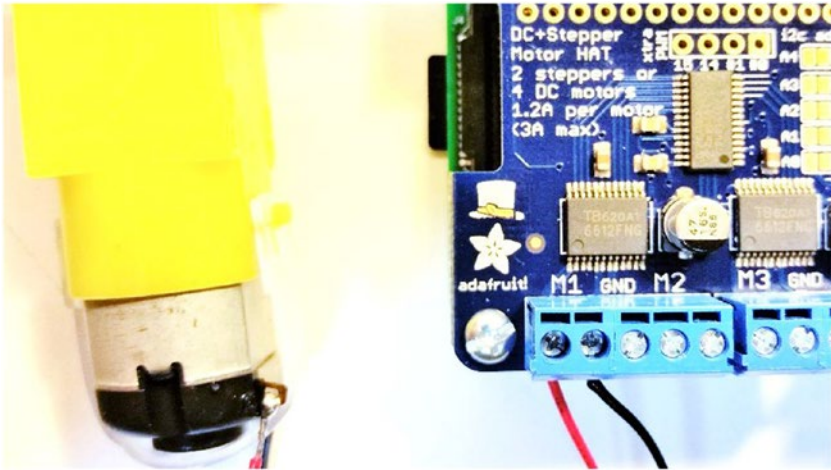

Figure 6-18. Motor connected to the Motor HAT
2. Insert one of the tinned leads into the hole on the side of the terminal block marked M1 (see Figure 6-18). It doesn't matter, which wire goes to which port, as long as both wires go to different ports for the same driver (in this case, M1).